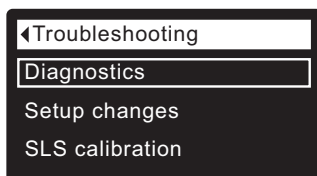

FIG. 98
2. To display the Diagnostics screen from any of the rolling status screens (when an error code is not displayed), press the SELECT (O) button to display the **Main menu**.
4. Press the SELECT (O) button to display the Advanced settings menu.
6. Press the SELECT (O) button to display the Troubleshooting menu (See Figure 98).
1. From any of the rolling status screens, press the SELECT (O) button to display the **Main menu**.
3. Press the SELECT (O) button to display the Advanced settings menu.
5. Press the SELECT (O) button to display the Troubleshooting menu (See Figure 98).
- **Cancel** will return to the Troubleshooting menu (Figure 98).
9. Press the SELECT (O) button.